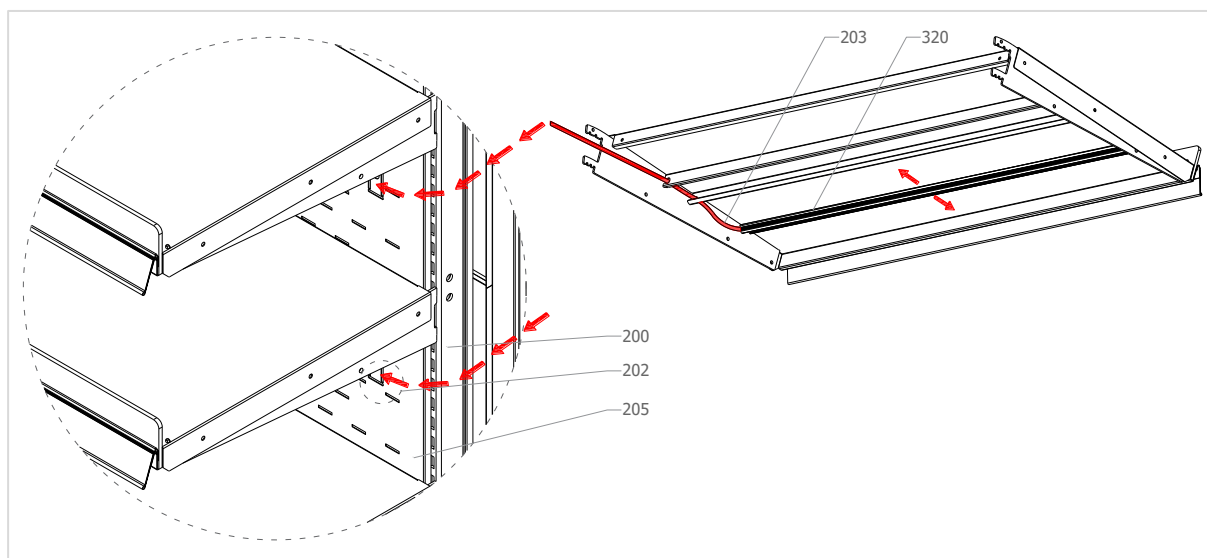

Figure 3
Fig. 3 shows a correctly closed curtain. To roll up (pick up) the curtain, grasp the handle (1) and gently pull down towards the floor to unlock the catch (2) from the lower curtain holder (3), then tilt it slightly in its direction and still holding the handle (1), let it roll up completely. IT IS FORBIDDEN TO LET GO OF THE CURTAIN FREELY AFTER RELEASING THE LOCK. WHEN ROLLING IT UP, IT SHOULD BE SLIGHTLY HELD!